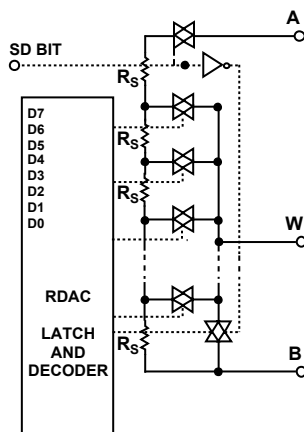

Figure 28. Equivalent RDAC Circuit (A terminal for AD5172 only)
The nominal resistance ( $R_{AB}$ ) of the RDAC has 256 contact points accessed by the wiper terminal, plus the B terminal contact if  $R_{WB}$  is considered. The 8-bit data in the RDAC latch is decoded to select one of the 256 settings. Assuming that a 10 k $\Omega$  part is used, the wiper's first connection starts at the B terminal for data 0x00. Such connection yields a minimum of 60  $\Omega$  resistance between terminals W and B because of the 60  $\Omega$  wiper contact resistance. The second connection is the first tap point, which corresponds to 219  $\Omega$  ( $R_{WB} = (1) \times R_{AB}/256 + R_W$ ) for data 0x01, and so on. Each LSB data value increase moves the wiper up the resistor ladder until the last tap point is reached at 10060  $\Omega$  ( $((256) \times R_{AB}/256 + R_W)$ ). Figure 28 shows a simplified diagram of the equivalent RDAC circuit. The general equation determining  $R_{WB}$  is